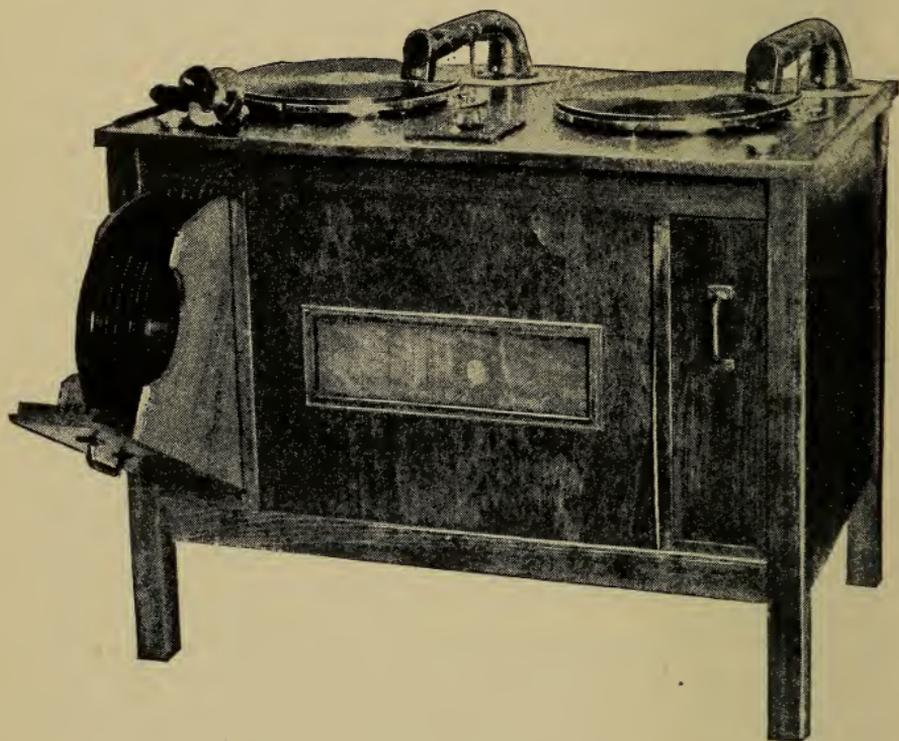

Figure 437.
The cabinet contains record compartments, one on each side. One of them is shown in open position in Fig. 437. Each of these compartments will accommodate twelve (12) records up to twelve (12) inches in diameter. In addition there is a center compartment in which 200 stock records may be stored.